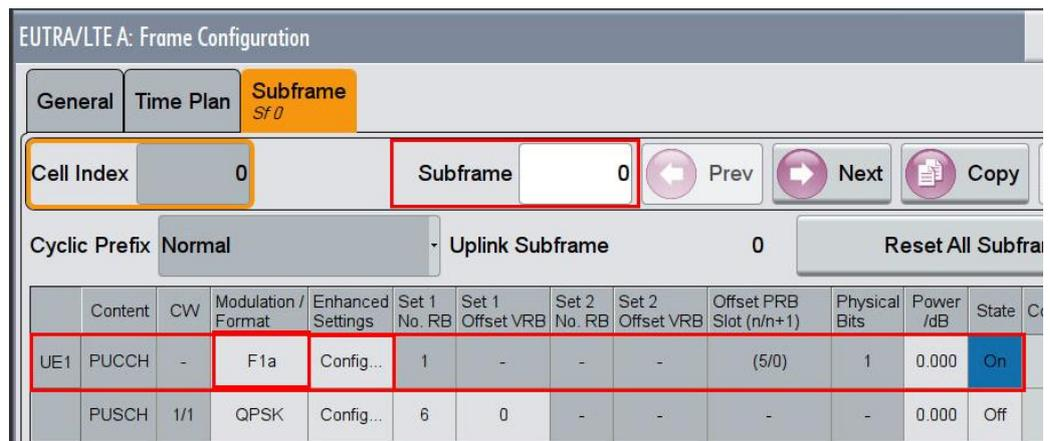

Fig. 3-102: PUCCH with format F1a in subframe 0
6. Set for the PUCCH the Format to **F1a** and the state **On** (Fig. 3-102)